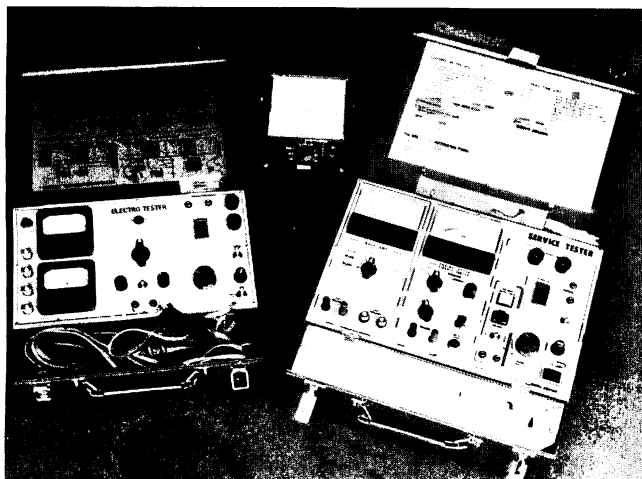

Fig. 20-12 Multimeters and diagnostic service testers
**Multimeters.** Several different meter functions can be packaged in one case; the resulting unit is a multimeter. A volt-ohmmeter-milliamp-meter (VOM) and the diagnostic service testers sold by the different bike makers are examples of multimeters you might use (Fig. 20-12).